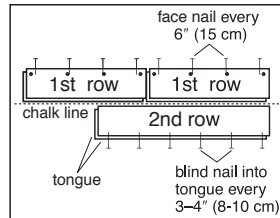

Figure 6
- Use the longest, straightest boards available for the first two rows. For random and alternate width products, use the widest plank for the first row. Align tongue of first row on chalk line. The groove should be facing the starting wall. Pre-drill 1/2" (13 mm) from back (groove) edge, 1'-2" (2.5-5 cm) from each end, and at 6" (15 cm) intervals when possible (Figure 6). Fasten using 4 or 6d finishing nails or 1" (2.5 cm) pneumatic finish nails/brads. Countersink the nails.